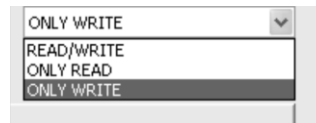

Figure L3.6 - Database Connector Configurations
3. Choose **Only Write** from the **Data Direction** drop-down list, as shown in Figure L3.6.
4. Choose **Only Write** from the **Data Direction** drop-down list, as shown in Figure L3.6.